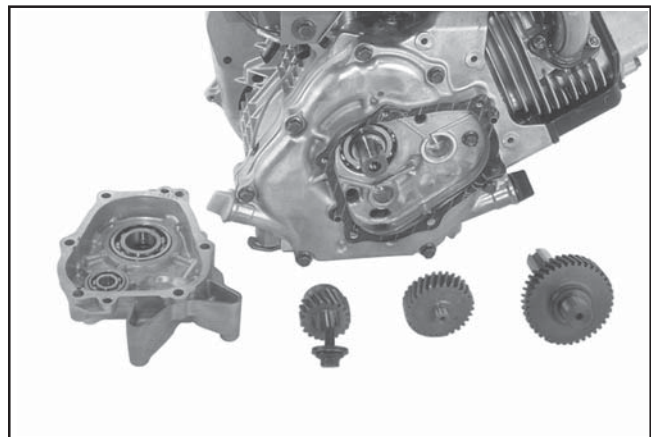

Figure 9-62. CS8.5-CS12 Disassembled Reduction Assembly.
- b. On CS8.5-12, remove the crankshaft gear, counter gear, and output shaft/gear assembly. See Figure 9-62.